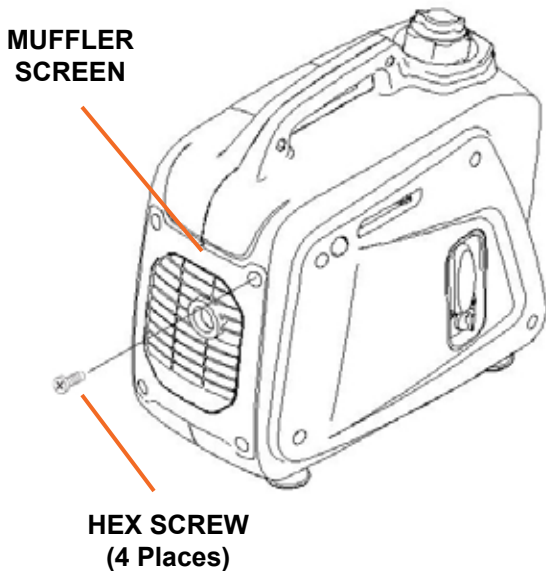

Figure 12
1. Remove the muffler cover (see Figure 12).